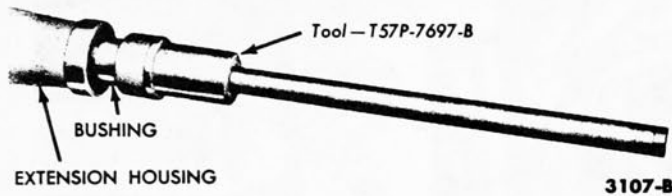

FIG. 5—Bushing Installation
3. When installing a new bushing use the special tool shown in Fig. 5.